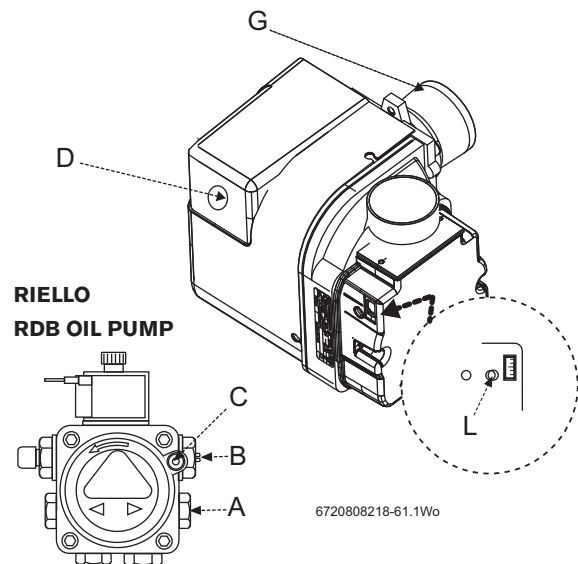

Fig. 61
- ▶ Wait 2 minutes then press the lockout reset button D (see figure 61) to initiate another start sequence.
- ▶ Check for after-spurting from the nozzle, indicated by oil saturation on the combustion head (G figure 61).